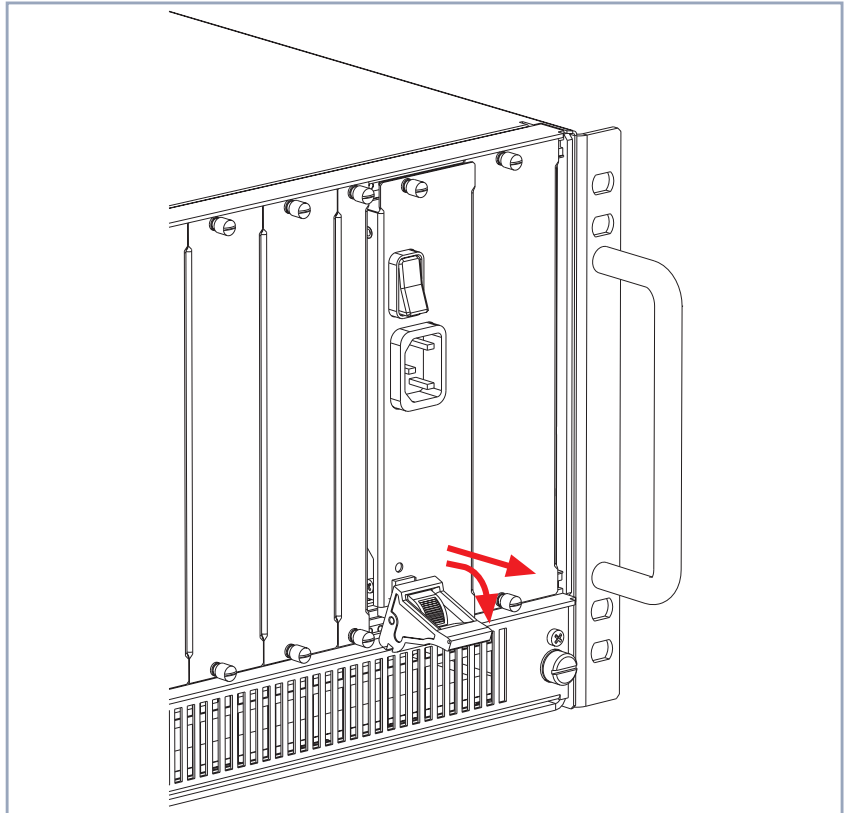

Figure 4-17: Replacing X8A-PS
- Push the injector/ejector handle (see figure 4-17, page 59) further down until the power supply unit comes out of its position.